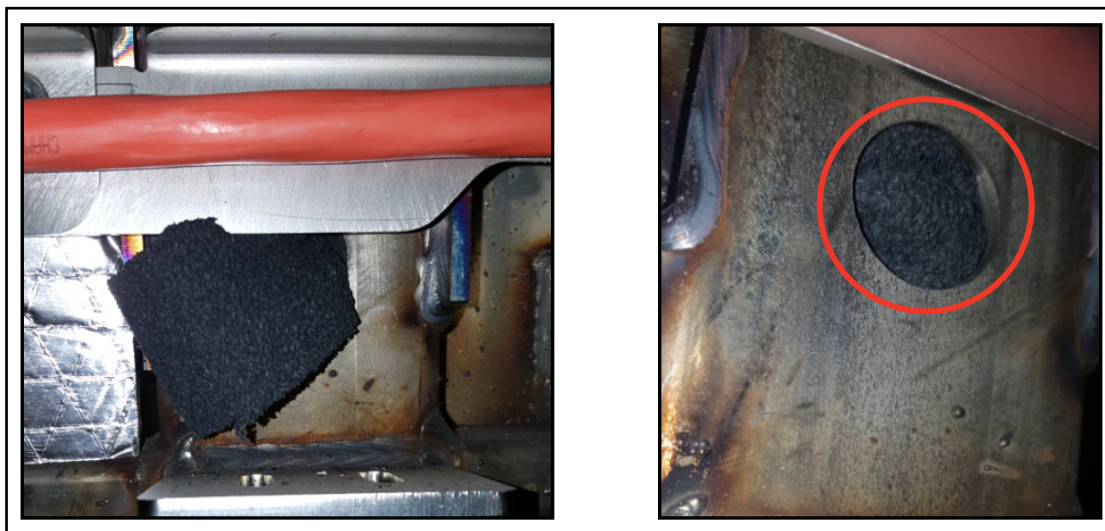

Figure 9 - Vertical Tube - HVAC Drain
- 1.13. To block the small hole, the small foam piece can be split in two along its joint to reduce its size and fit easier into the hole (see Figure 9).